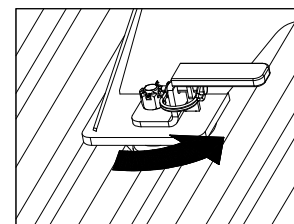

Figure C2: View of closed latch handle.
- Prepare to adjust latch tension.** Once the base is in place, remove the cotter pins from each of the four castle nuts. Engage the cams with each attachment point by turning the latch handles back to their latched position, see Figure C2. If a handle will not turn easily, loosen the castle nut until the cam will freely turn and engage the attachment point.